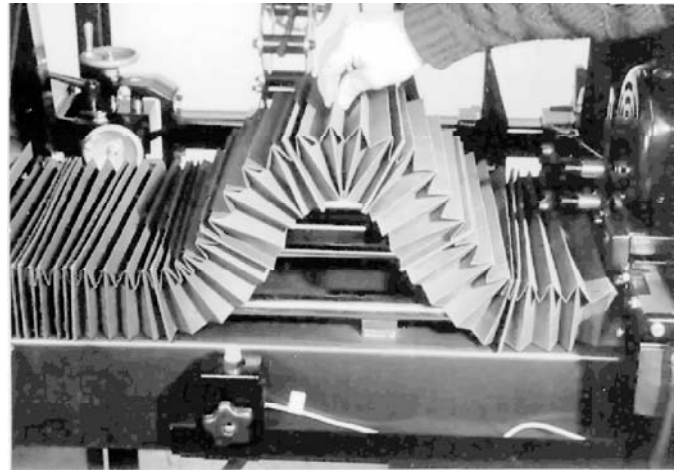

FIG. 26
4. Lift the bellows, (See FIG. 26) and wipe off the traverse driveshaft and the bearing rails monthly. When a squeaking noise is coming from the actuator bearings, follow the lubrication procedure for actuator and linear bearings. Generally, this will be every six months to a year.